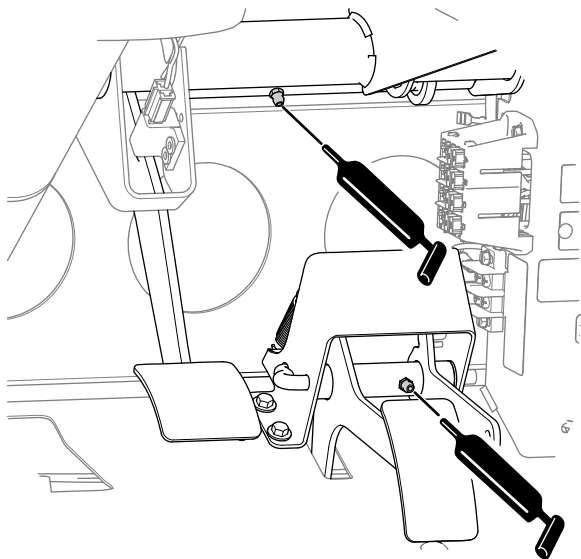

**Figure 39**
- **Drive shaft U-joints (2)**; refer to Figure 39
- **Sliding yolk (1)**; refer to Figure 39